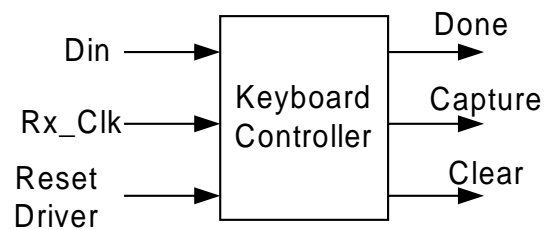
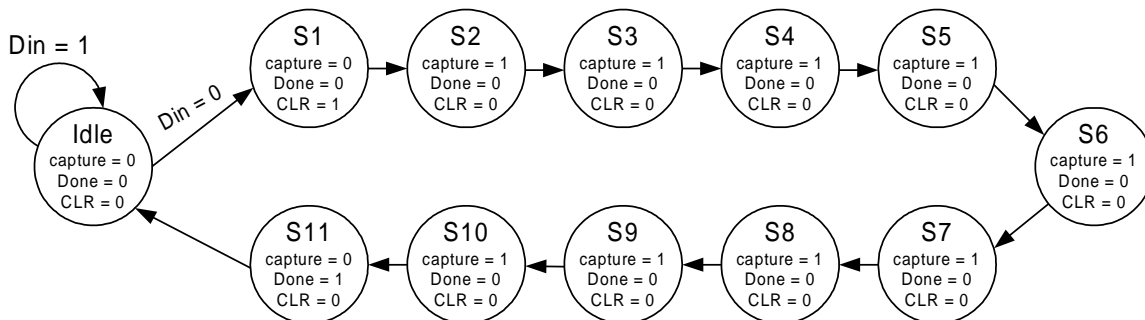

Figure 33
Figure 34
Kyb_control Unit: This unit is the main state machine for the keyboard driver (Figure 33). We have provided the state machine for this unit in Figure 34.
53. Design a sequential system for the state transition diagram of Figure 34.